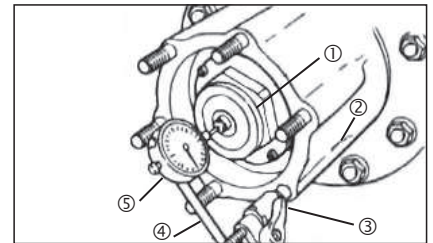

Figure 6
- Setup gauging with similar equipment as shown in Figure 6.